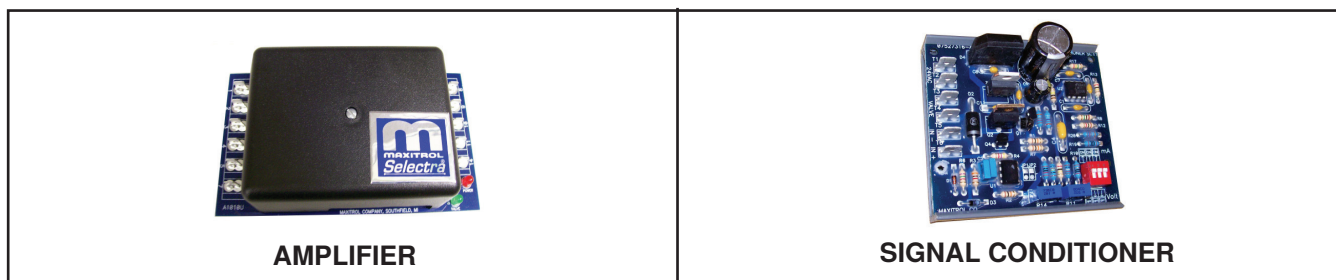

Figure 26. Maxitrol Amplifier and Signal Conditioner
- **Electronic modulation between 50% and 100% firing rate (option AG8):** Electronic modulation for makeup air application that is controlled by a duct sensor and temperature selector (55–90°F (12.8–32.2°C)). The temperature selector setting for option AG8 is on the amplifier (see Figure 26). Option AG8 is available with an override thermostat.
- **Electronic modulation between 50% and 100% firing rate (option AG21):** With option AG21, the furnace is equipped with a Maxitrol signal conditioner (see Figure 26) that operates much the same way as the amplifier above to control the regulator valve. The conditioner accepts an input signal of either 4–20 milliamps or 0–10 volts from a customer-supplied control device such as a computer. With the dip switches on the conditioner in the ON positions, the conditioner accepts a 4–20 milliamp signal. In the OFF positions, the conditioner accepts a 0–10V signal. The conditioner converts the signal to the 0–20 volt DC current required to control the modulating valve.